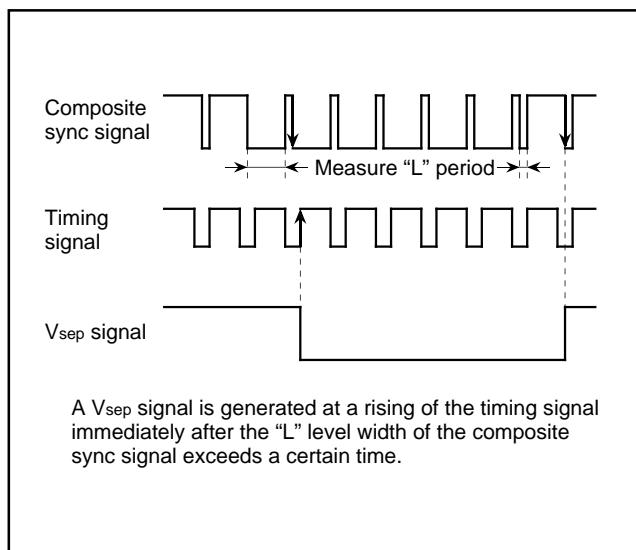

Fig. 25. V_{sep} generating timing (method 2)
- Method 2 The “L” level width of the composite sync signal is measured. If this width exceeds a certain time, it is detected whether a falling of the composite sync signal exists or not in the “L” level period of the timing signal immediately after this “L” level. If a falling exists, a V_{sep} signal is generated in synchronization with the rising of the timing signal (refer to Figure 25).
Figure 25 shows a V_{sep} generating timing. The timing signal shown in the figure is generated from the reference clock which the timing generating circuit outputs.